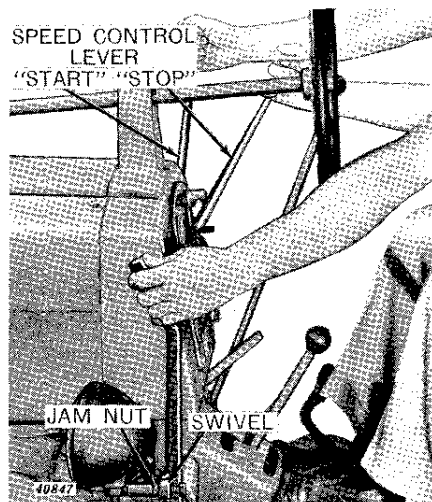

Figure 10-10-4—Starting the Diesel Engine
(4) Push starting control lever forward until swivel on control lever just contacts jam nut. This puts the diesel engine on full compression (Figure 10-10-4).